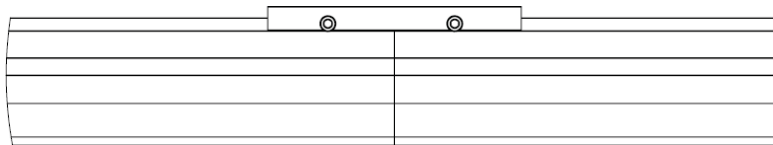

Figure 95: **Track Sections Butted Together With No Gap**
- Make sure there is no gap between the track sections (Figure 95).